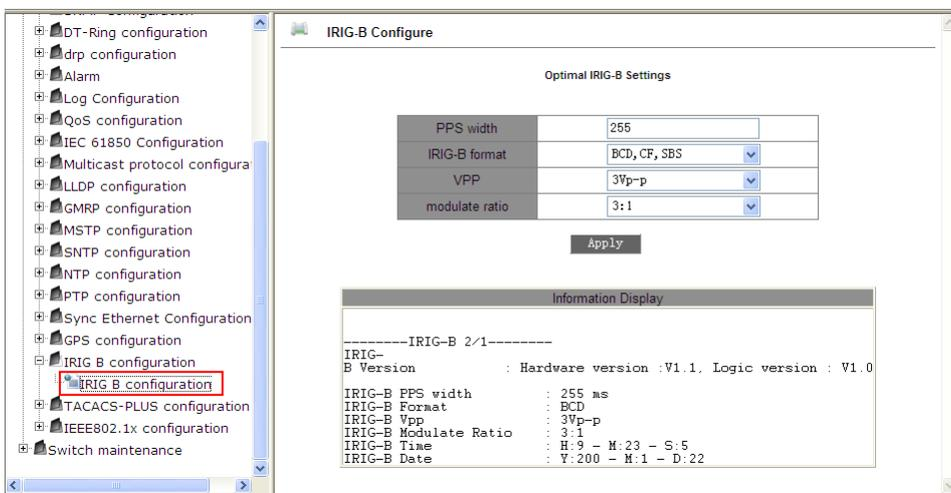

Figure 25 IRIG-B Configuration Interface
2. Input the IP address of the current switch in web browser, the default IP is **192.168.0.2**. The Web interface access screen will appear as shown in Figure 24 (Take SICOM6028GPT for example); Enter the Web management page as shown in Figure 25 with default user name “**admin**” and password “**123**”.
3. As shown in Figure 25 below, there is a navigation tree menu on the left side; click IRIG-B configuration→IRIG -B configuration(in red), and the IRIG-B configuration interface will appear on the right; you can make and search for IRIG-B configuration on upper and lower side of the IRIG-B configuration interface separately. Refer to Table 5 for the description of the current IRIG-B configuration information.